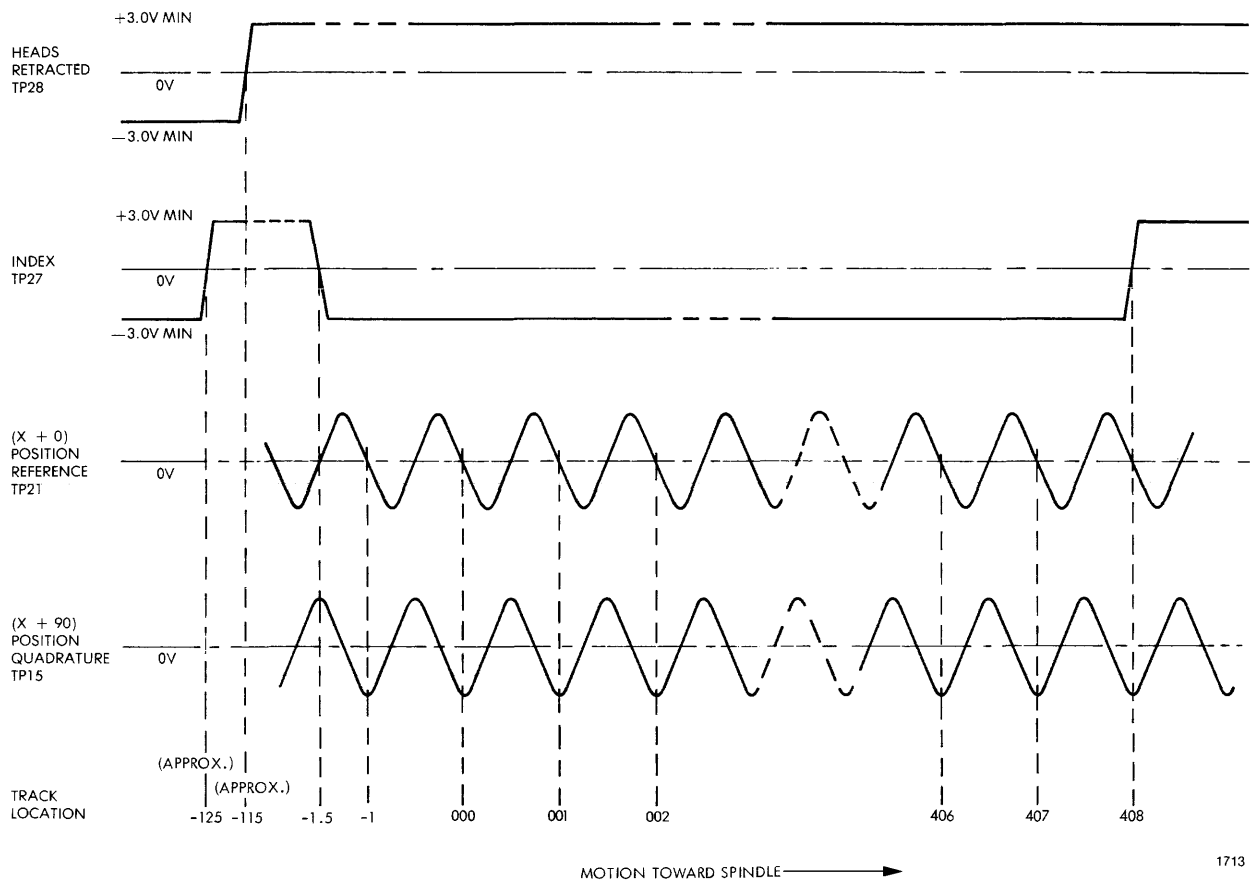

Figure 6-4. Position Transducer Signal Amplifier Outputs
- (1) Manually move the positioner carriage slowly, and at a constant rate, back and forth through its full stroke. Do not unload the heads from the disk.
- (2) Monitor TP21 on oscilloscope Channel 1 and observe the Position Reference (X + 0) waveform shown in Figure 6-4 as the positioner is being moved. The peak-to-peak voltage observed throughout the full stroke of the positioner must fall within the acceptable limits listed in Step (3) and balanced about ground within  $\pm 0.25v$ . If the acceptable limits are exceeded, perform the adjustment procedures in Paragraph 6.8.1.3 before continuing this procedure.
- (3) Acceptable limits:
- (1) Loosen the three Allen-head screws that hold the scale assembly to the side of the carriage. The scale will pivot slightly around its locating pin.
- (2) Manually move the positioner carriage back and forth slowly (at a constant rate) through its full stroke while monitoring the waveform at TP21 (X + 0) (refer to Figure 6-4).
- (3) Adjust the horizontal angle of the scale so that the amplitude of the waveform at TP21 remains constant throughout each full stroke of the positioner carriage.
- (4) Tighten the Allen-head screws loosened in Step (1).
- (5) Perform the adjustment procedure detailed in Paragraph 6.8.1.3.
- (1) Manually move the positioner carriage slowly, and at a constant rate, back and forth through its full stroke, i.e., cylinder 000 to cylinder 405. Do not unload the heads from the disk.
- (2) Monitor TP15 on oscilloscope Channel 1 and observe the X + 90 Position Quadrature waveform shown in Figure 6-4 as the positioner is being moved. The peak-to-peak voltage observed throughout the full stroke must fall within the acceptable limits listed in Step (3) and balanced about ground within  $\pm 0.25v$ . If the acceptable limits are exceeded, perform the adjustment procedure detailed in Paragraph 6.8.2.3.
- (1) Move the positioner carriage to its fully retracted position. Note that the spindle speed decreases as the heads are unloaded.
- (2) Select Channel 1.
- Check that the dc level of the signal at TP28 is equal to or more negative than  $-3v$  (refer to Figure 6-4).
- Continue to move the positioner carriage slowly toward the spindle all the way to the front stop. Check that the signal voltage remains at  $+3v$  as shown in Figure 6-4.
- (1) Select Channel 1.
- (2) Manually move the positioner carriage back and forth within the index area (within the first ¼-inch after the heads are loaded onto the disk).
- (3) Check that the signal at TP27 changes from +3v to –3v or more negative (refer to Figure 6-4). Adjust potentiometer R75 (Index Balance) to obtain an equal balance of the + and – dc levels with respect to ground.
- (4) Continue to adjust R75 until the transition region is approximately centered about ground.
*If crosstalk is observed, R75 must be adjusted to ensure that it does not exceed the limits specified in Step (3).*
- (5) Fully retract the positioner carriage.
- (6) Slowly move the positioner carriage approximately ½-inch closer to the spindle.